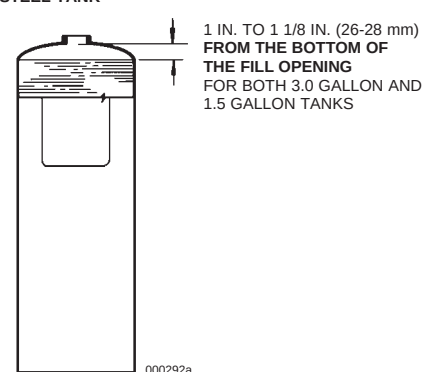

FIGURE 7-5
10. Fill each tank with 1.5 gal (5.8 L) or 3.0 gal (11.6 L) of ANSULEX Low pH Liquid Fire Suppressant. See Figure 7-5. **Note:** Use a funnel with a screen to stop any foreign material from entering the tank. See Page 5-3, Figure 5-6, for additional detailed filling instructions.